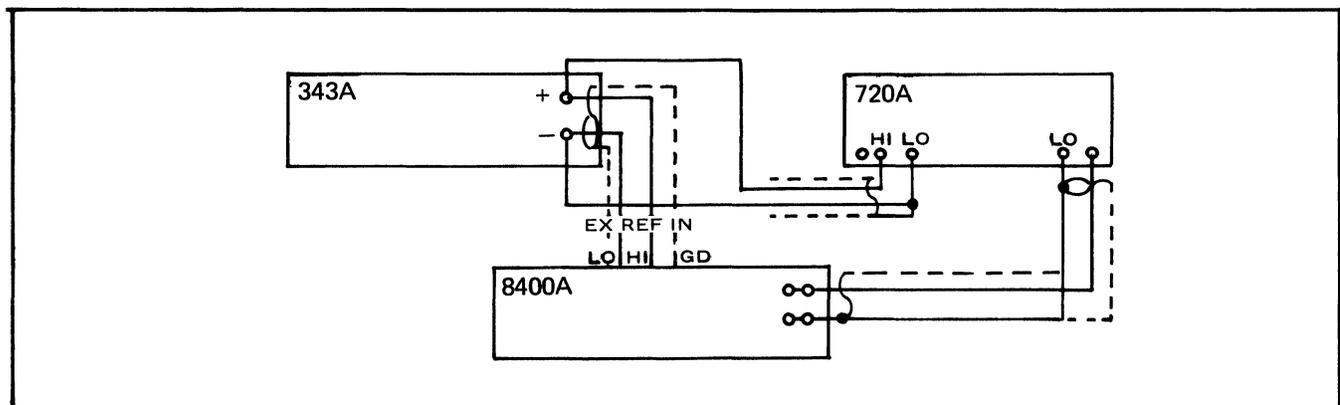

Figure 6-4. EQUIPMENT CONNECTIONS FOR DC EXTERNAL REFERENCE UNIT CALIBRATION.
- a. Connect the dc voltage source to the Model 8400A as shown in Figure 6-4.
- Connect equipment as shown in Figure 6-4.